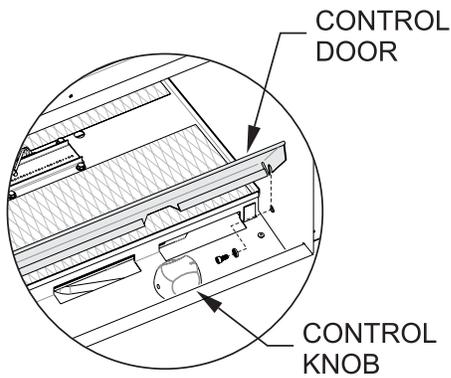

Figure 14
- b. Remove the two control door pivot bolts and washers. See Figure 14.